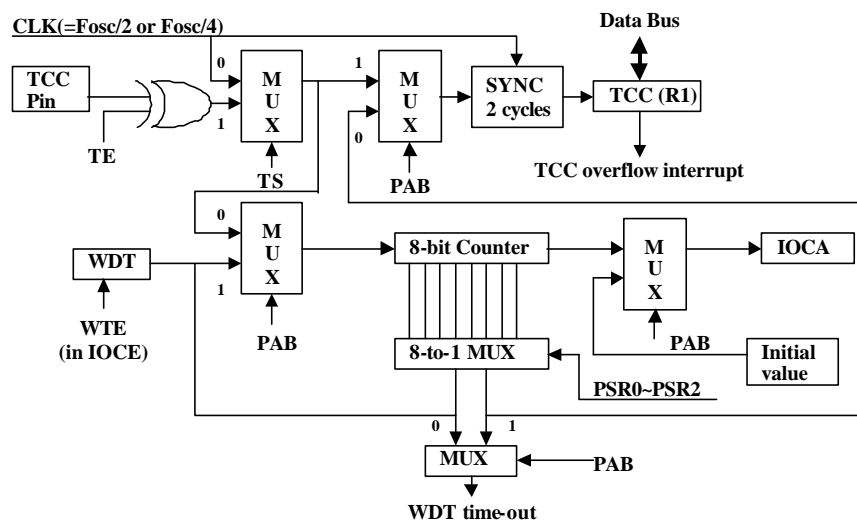

Fig. 5 Block Diagram of TCC and WDT
An 8-bit counter available as prescaler for the TCC or WDT. The prescaler is available for either the TCC or WDT only at any given time, and the PAB bit of the CONT register is used to determine the prescaler assignment. The PSR0~PSR2 bits determine the ratio. The prescaler is cleared each time the instruction is written to TCC under TCC mode. The WDT and prescaler, when assigned to WDT mode, are cleared by the “WDTC” or “SLEP” instructions. Fig. 5 depicts the circuit diagram of TCC/WDT.
- R1 (TCC) is an 8-bit timer/counter. The clock source of TCC can be internal or external clock input (edge selectable from TCC pin). If TCC signal source is from internal clock, TCC will increase by 1 at every instruction cycle (without prescaler). Referring to Fig. 5, $CLK = Fosc/2$ or $CLK = Fosc/4$ application is determined by the CODE Option bit CLK status. $CLK = Fosc/2$ is used if CLK bit is "0", and $CLK = Fosc/4$ is used if CLK bit is "1". If TCC signal source comes from external clock input, TCC is increased by 1 at every falling edge or rising edge of TCC pin.